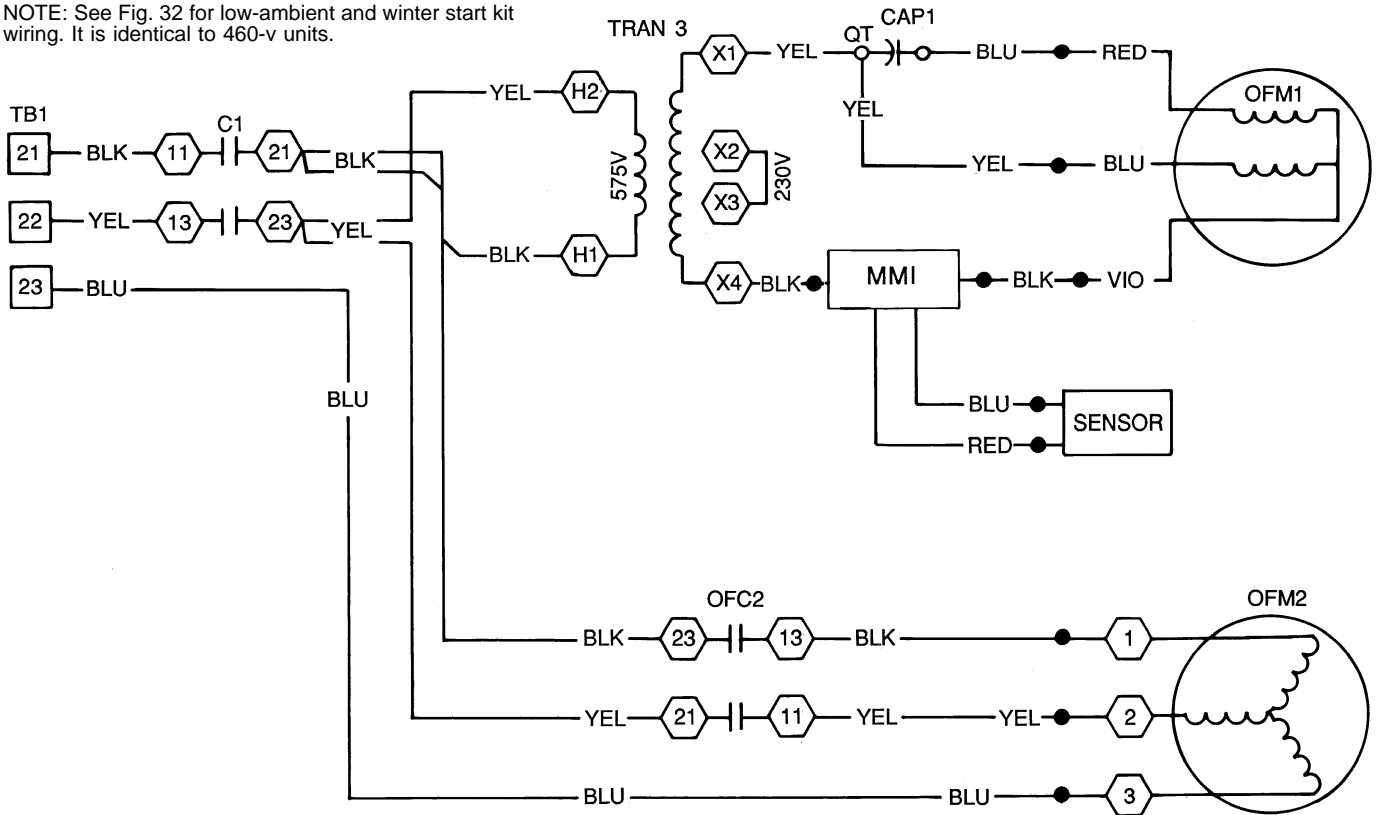

Fig. 34 — Wiring Details, Motormaster® I Controller Installed; 48/50HJ024, 575-V Units
4. Attach 2 new, field-supplied wires (shown as black in Fig. 34). Attach one between C1 terminal 21 and OFC2 terminal 23, and the other between C1 terminal 21 and TRAN3 terminal H1.
7. Attach 2 new, field-supplied wires (shown as yellow in Fig. 34). Attach one between C1 terminal 23 and OFC2 terminal 21 and the other between C1 terminal 23 and TRAN3 terminal H2.
9. Attach new field-supplied wire (shown as black in Fig. 34) between TRAN3 terminal X4 and MMI.
10. Attach new field-supplied wire (shown as yellow in Fig. 34) between TRAN3 terminal 1 and CAP1 QT.